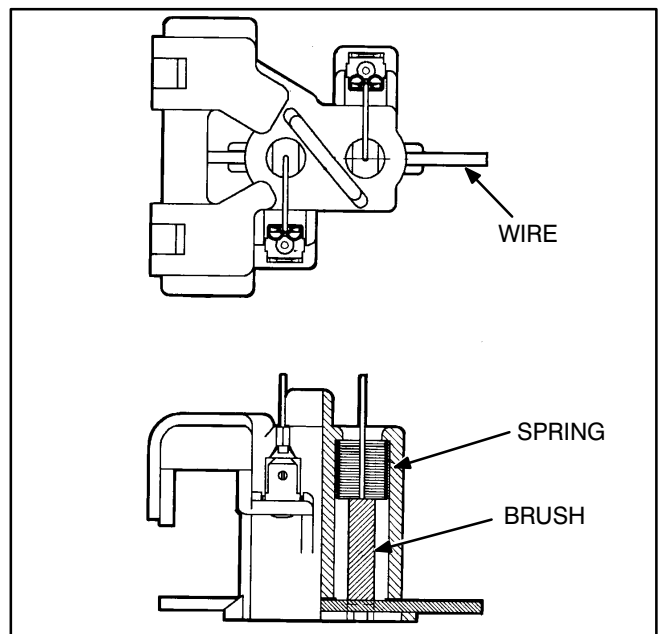

FIGURE 9-10. BRUSH REPLACEMENT
2. Remove the brushes and springs from the holder and replace with new parts (Figure 9-10).